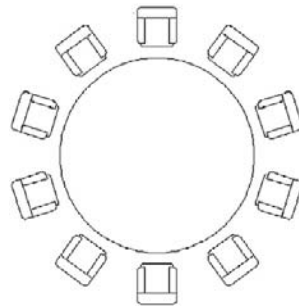

FIGURE 8.3
Step 7. Your array is done, so just press Enter to accept. We explore some of the options in Step 7's menu in the next section. The completed polar array is shown in Figure 8.3.